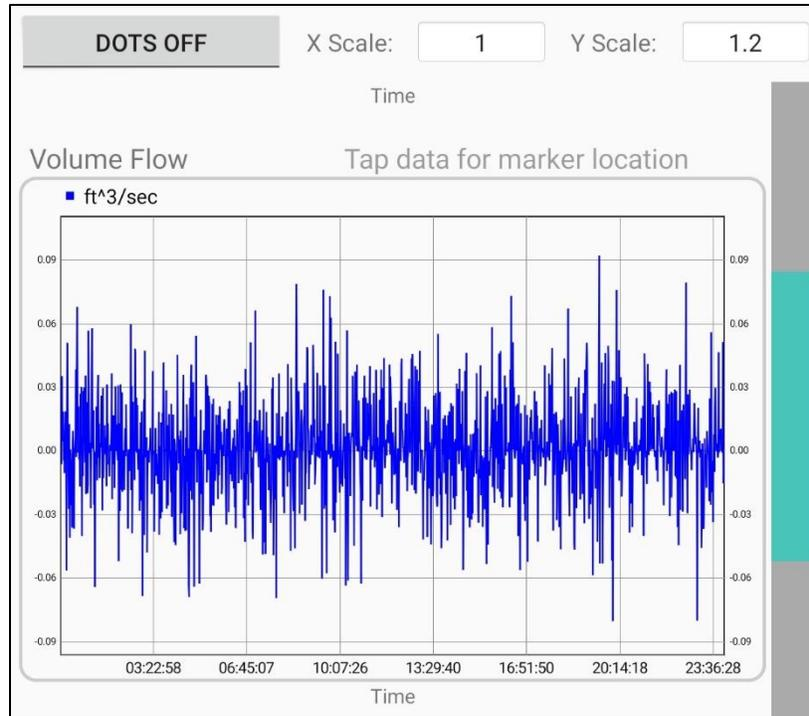

Figure 21: Log Chart Data - Default Scaling
Examples of the X and Y scaling are shown in Figures 21, 22, and 23 below.
- Figure 21 shows a data set that appears to have a lot of noisy data. In reality, the value is bouncing slightly above and below zero. This chart is at the default scaling values.